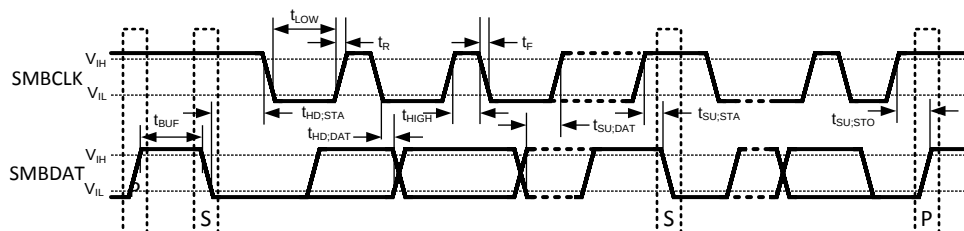

Figure 2. SMBus Communication
- (1) Absolute Maximum Ratings indicate limits beyond which damage to the device may occur. Operating Ratings indicate conditions for which the device is ensured to be functional, but do not ensure specific performance limits. For ensured specifications and test conditions, see the Electrical Characteristics. The ensured specifications apply only for the test conditions listed. Some performance characteristics may degrade when the device is not operated under the listed test conditions. Operation of the device beyond the maximum Operating Ratings is not recommended.
- (2) When the input voltage (V_I) at any pin exceeds the power supplies (V_I < GND or V_I > V_{DD}), the current at that pin should be limited to 5 mA. Parasitic components and or ESD protection circuitry are shown in Figure 2 and Table 1 for the LM95241's pins. Care should be taken not to forward bias the parasitic diode, D1, present on pins: D1+, D2+, D1–, D2–. Doing so by more than 50 mV may corrupt the temperature measurements.
- (3) Thermal resistance junction-to-ambient when attached to a printed circuit board with 1oz. foil and no air flow: